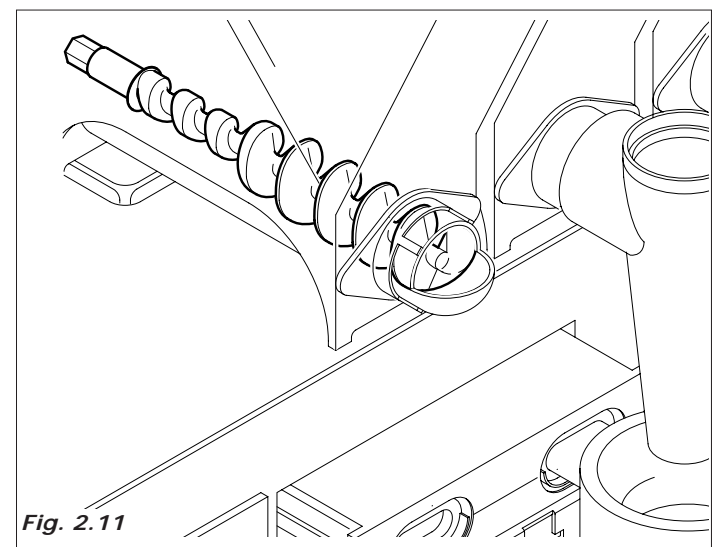

Fig. 2.11
- The instant product geared motor activates the helicoidal screw conveyor so as to dispense the quantity of product programmed into the mixer (in some versions several products can be processed in the same mixer such as milk and chocolate) (Fig.2.11)
- Once the preset water and powder quantity has been supplied, the mixer is disabled after a time (T) set during the programming.